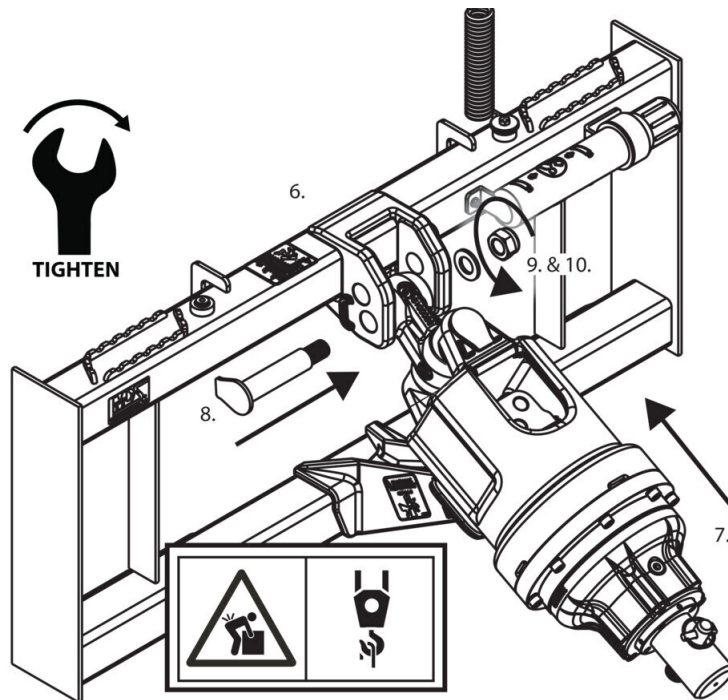

Fig.26.
Using suitable lifting equipment install item 7 into frame assembly 6., using appropriate location point. Secure with item 8., 9. and 10. Tighten to 120-140Nm (88-103ft-lbs). **Fig.26**